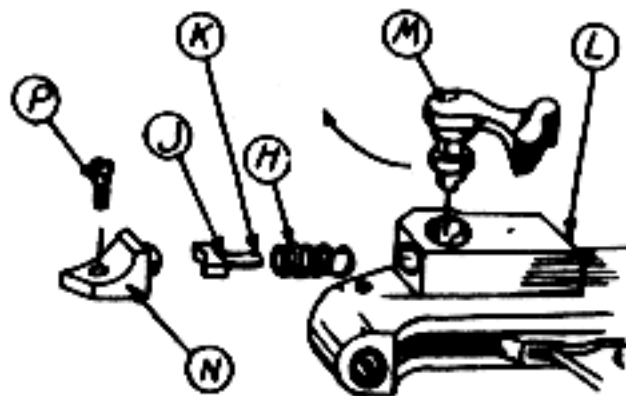

FIG. 3.
7 PLACE THE SAFETY LOCK SPRING (H) ON SAFETY LOCK PLUNGER (J) AND INSERT THE UNIT INTO THE HOUSING; PUSH WITH SCREWDROVER UNTIL END (K) IS PROTRUDING FROM END OF HOUSING AT POINT (L). HOLD END (K) WITH A PAIR OF PLIERS, THEN INSERT THE SAFETY LOCK (M) AS SHOWN IN FIG. 3, AND TURN IT CLOCKWISE A HALF TURN. PLACE THE SAFETY LOCK HOLDER (N) INTO POSITION AND FASTEN IT WITH SAFETY LOCK HOLDER SCREW (P).